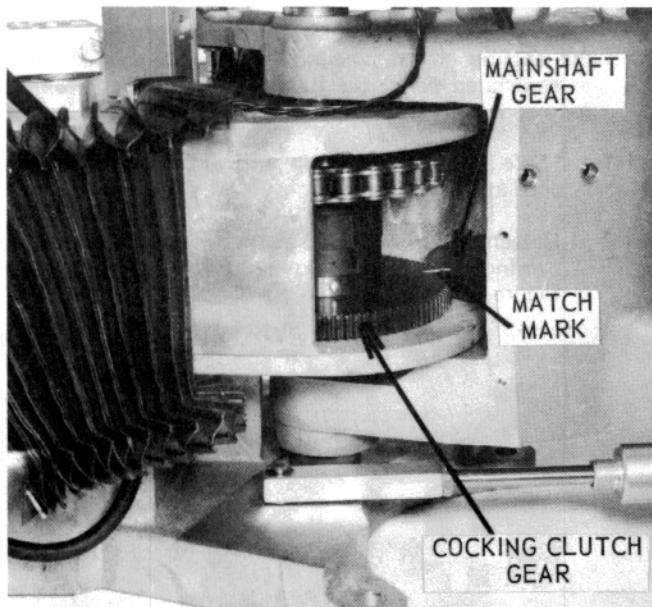

Figure 59 — Correct Meshing of Cocking Clutch Gear and Mainshaft Gear
- 4.2 Reinstall the cocking clutch and be sure the match marks on the cocking clutch gear and the mainshaft gear are in alignment (see Figure 59). Reassemble the mainshaft housing by installing the pivot shaft. If the match marks become misaligned during the assembly, they can be realigned by following the procedures in section VII-5, page 19.